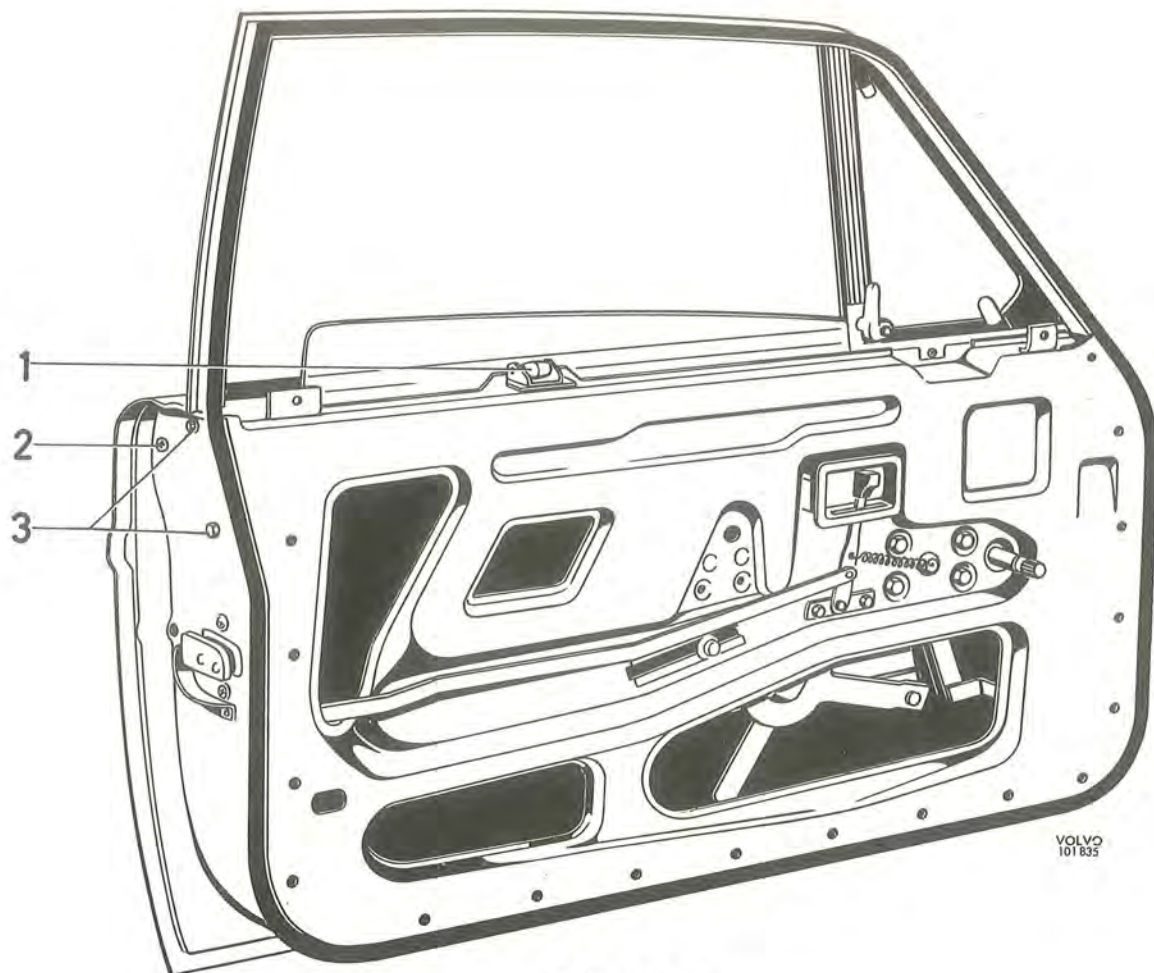

Fig. 8-6. Front door
structions under "Removing and fittings door stops". Unscrew the bolts between the hinges and door. The bolts are accessible when the door is opened. The door can then be taken off (Fig. 8-6).
2. Remove the guide roller for the window. The guide roller is placed at the upper edge of the door as shown in Fig. 8-6.